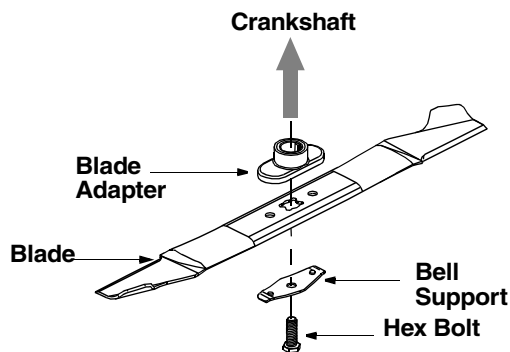

Figure 14
- Remove the bolt and bell support which hold the blade and adapter to the engine crankshaft. See Figure 14. Remove the blade and adapter from the crankshaft.